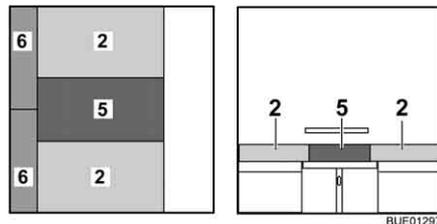

Fig. 124 After conversion
- Insert the additional cushion (Fig. 124,5) onto the table between the seat cushions.
- Insert the additional cushions (Fig. 124,6) between the seat cushions and the wall.